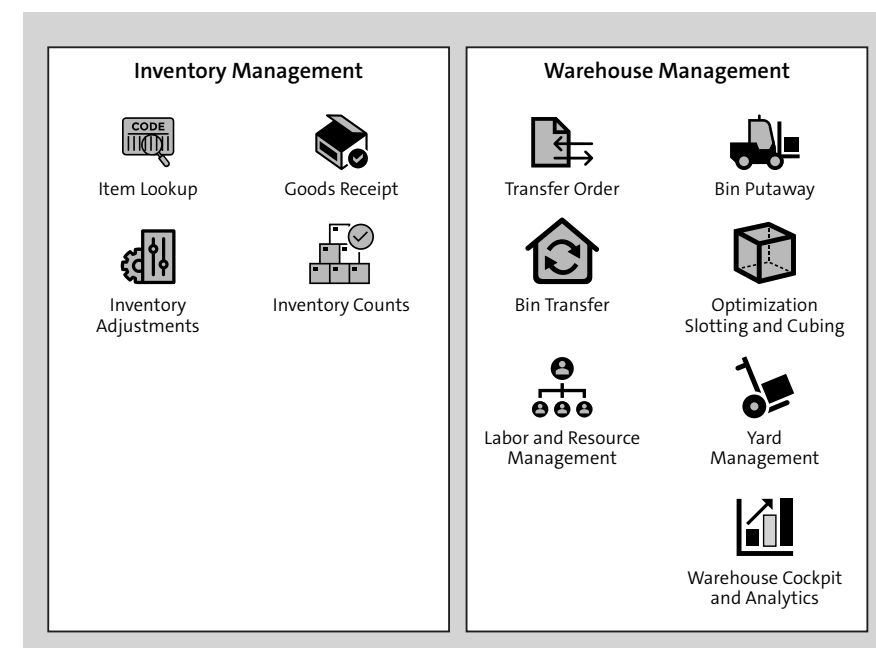

Figure 2.2 Third-Party Logistics Inventory Management and Warehousing Function
Figure 2.2 depicts the common activities for third-party logistics under inventory management and warehouse management (WM).